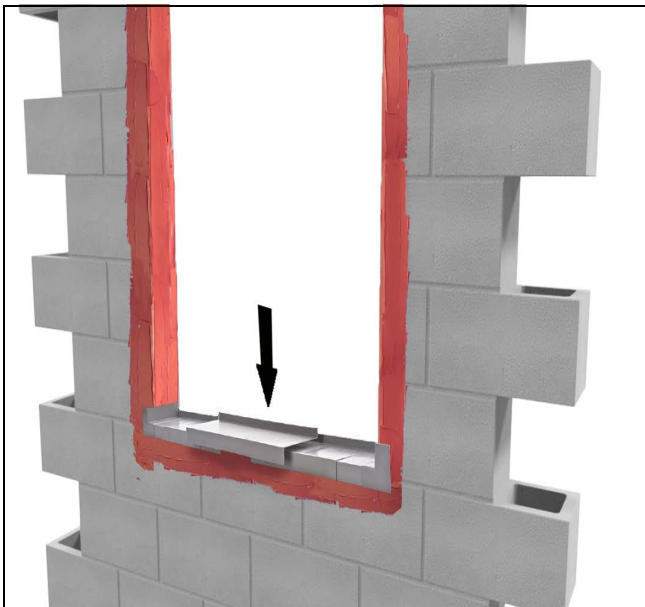

Figure 3
**3.** If rigid panning is used, place a bead of silicone or construction adhesive used to hold the panning to the sill. See Figure 3.